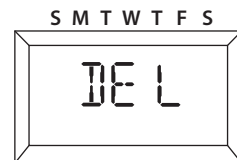

Figure 9
- Press **+** or **-** until the display reads "DEL" and press **ENTER**. See Figure 9.